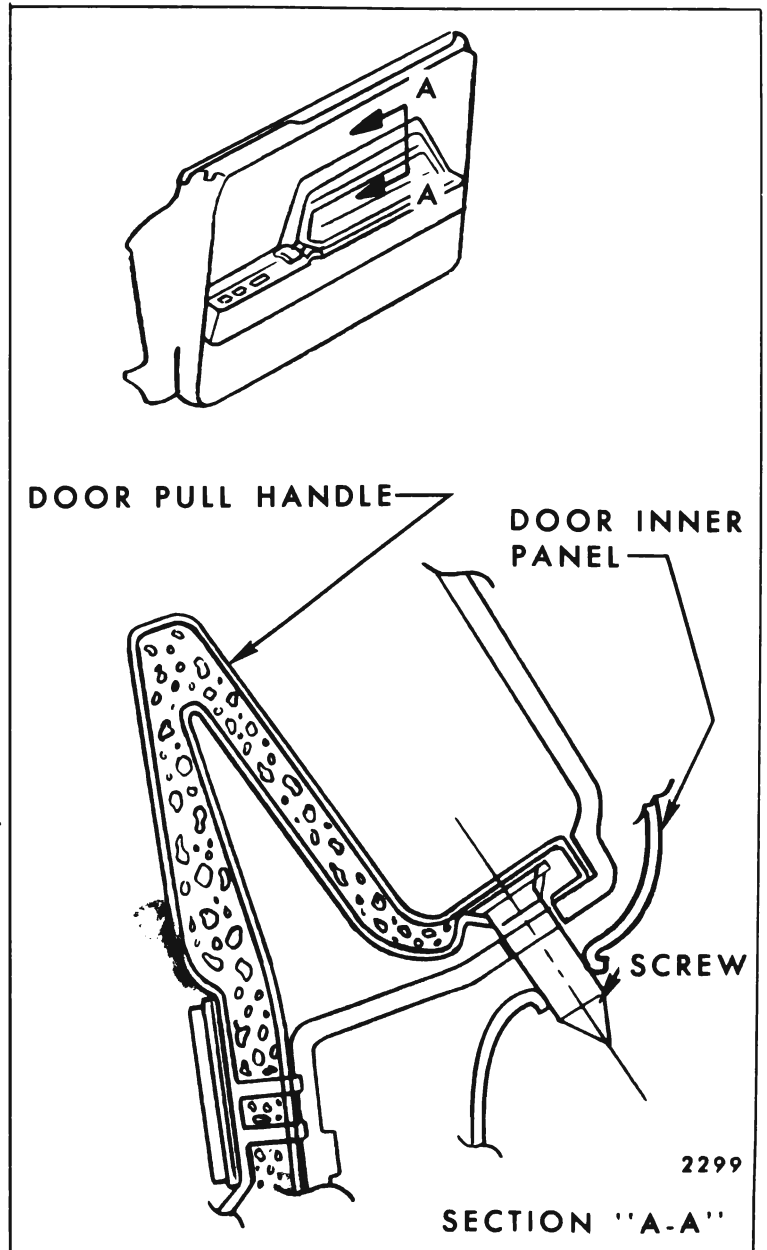

Fig. 7-7—Door Pull Handle Retention - 49487 Style with Custom Trim
- b. On 49487 Style with custom trim, screws are accessible but partially hidden behind door pull handle (Section "A-A", Fig. 7-7).